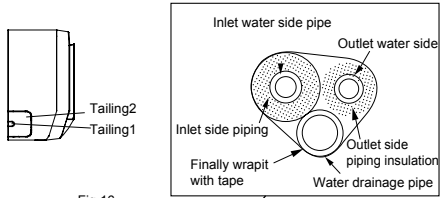

Fig.16
(1) When routing the piping and wiring from the left side of the unit, cut off the tailings from the chassis in necessary(Show in Fig.16)